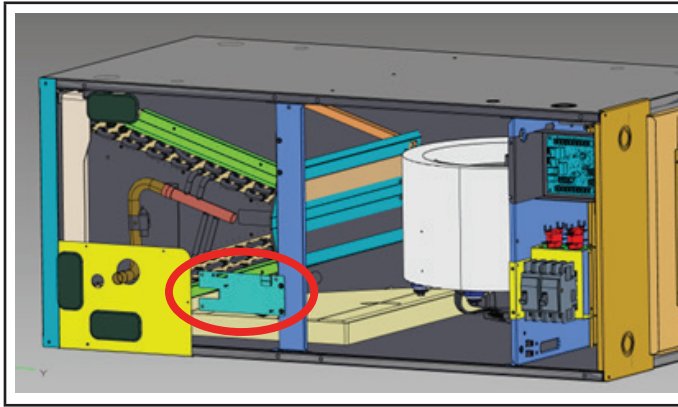

FIGURE 9
- 5 - Ensure sensor wire routes to the right hand side, as viewed from the front of the unit. The wire must route through the slotted opening in the center support bracket (see figure 9).